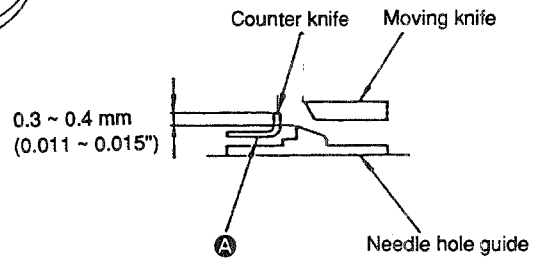

Fig. 18-2
- 1) If the difference in height between the needle hole guide and the blade of the counter knife has not been adjusted to a value within the range of 0.3 to 0.4 mm, adjust it by prizing off portion **A** (Fig. 18-2) with a screwdriver or the like. (At this time, check the parallelism between the blade and the throat plate installing plane.)